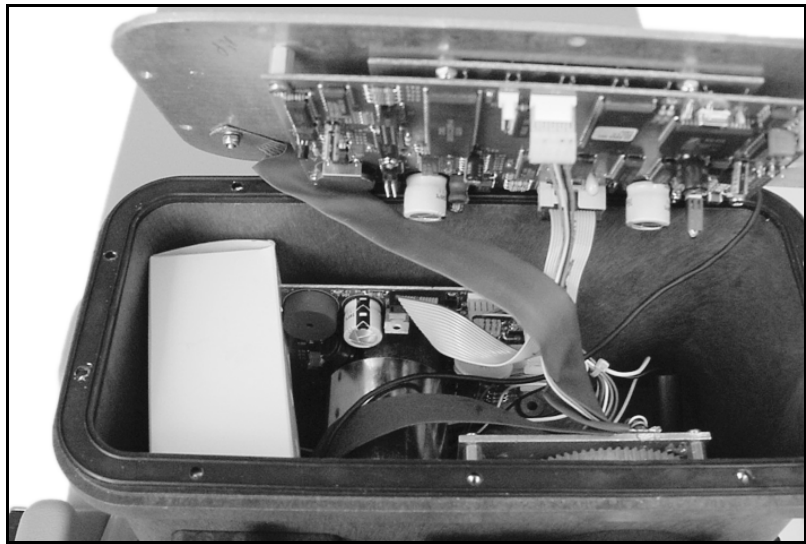

Figure 5-5 Internal Desiccant
4. Lift the front panel slowly so that the connecting wires are not pulled excessively (Figure 5-5).